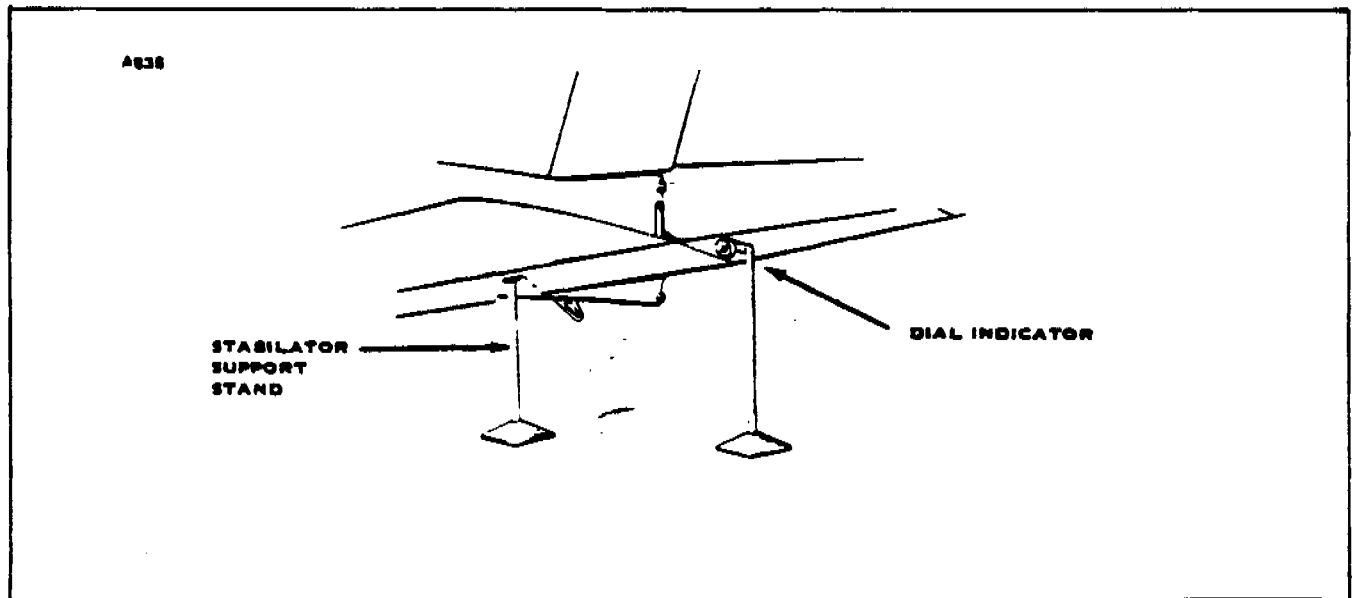

FIGURE 4-7b. CHECKING STABILATOR FREE PLAY
2. **Stabilator Trim Tab:** Set the stabilator trim tab in neutral position. This neutral position is determined with the airplane properly rigged per instructions given in this section of the service manual; the control wheel in its neutral position per Table V-1, and the trim indicator at its neutral position. Place a support under the stabilator spar to prevent movement. (Refer to Figure 4-7b.) Obtain a straightedge long enough to extend from the ground up to a few inches above the trim tab trailing edge. Place the straightedge next to the trim tab inboard (center) trailing edge and grasping the tab, gently move it up and down, without moving the stabilator, mark the limits of the tab free play on the straightedge. The overall travel (free play) must not exceed .076 of an inch. The use of a dial indicator and fixed stand is recommended. (Refer to Figure 4-7b.)